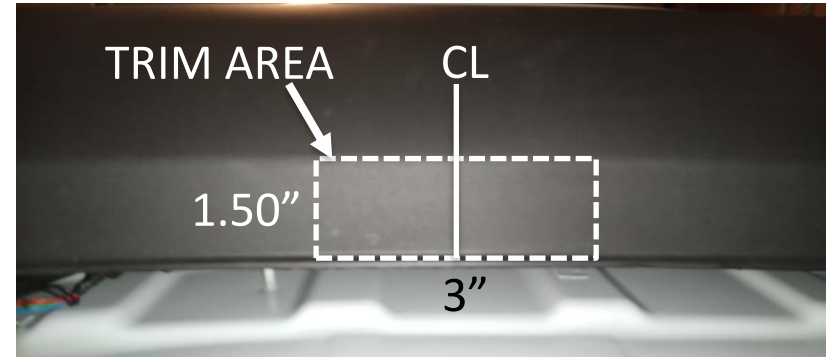

Figure 2
9. Trim fascia – Locate the center of fascia. Use a tape measure, marker, and die grinder, to cut a 3"x1.50" notch in the bottom of fascia. **See Figure 2**. Note: Be sure area is clear of all electrical wiring before trimming.